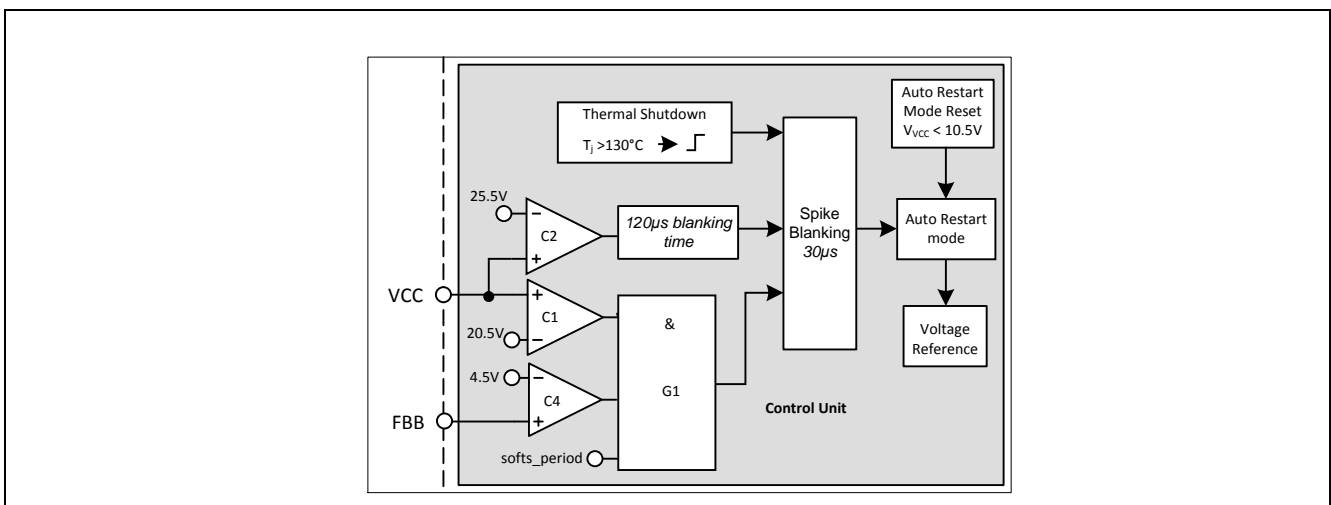

Figure 30: V_{cc} OVP and OTP
V_{cc} OVP (1) condition is when V_{VCC} voltage is > 20.5V, V_{FBB} voltage is > 4.5V and during soft start period, the IC enters into odd skip Auto Restart Mode. This condition likely happens during start up at open loop fault (Figure 30).
Vcc OVP (2) condition is when V_{VCC} voltage is > 25.5V, the IC enters into odd skip Auto Restart Mode (Figure 30).
The over temperature protection OTP is sensed inside the controller IC. The Thermal Shutdown block keeps on monitoring the junction temperature of the controller. After detecting a junction temperature higher than 130°C, the IC will enter into the non switch Auto Restart mode. The ICE3AR0680VJZ has also implemented with a 50°C hysteresis. That means the IC can only be recovered when the controller junction temperature is dropped 50°C lower than the over temperature trigger point (Figure 30).